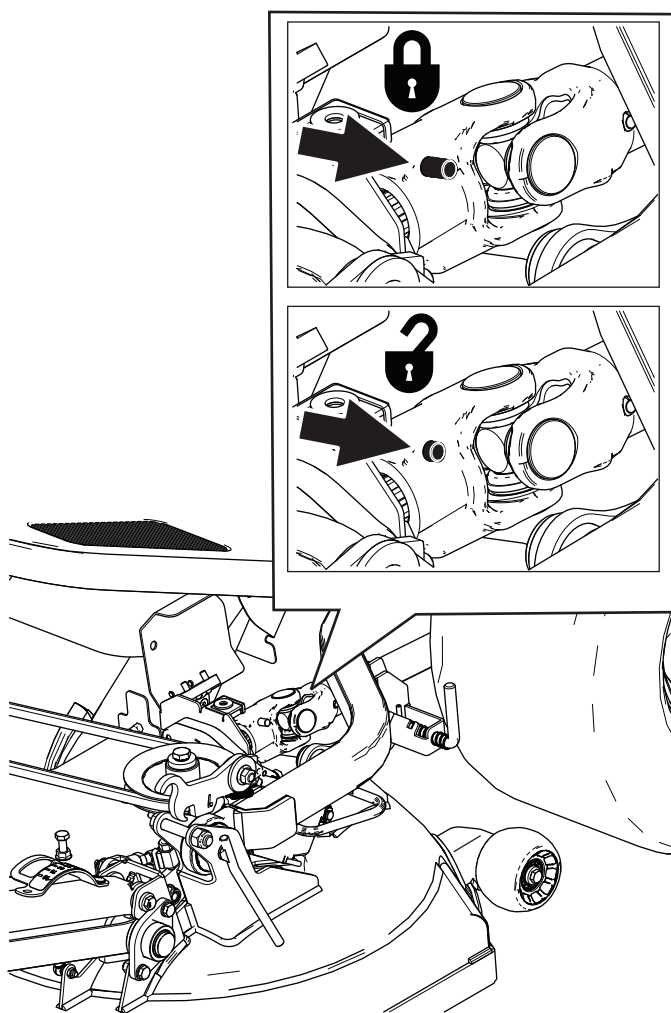

Figure 91
1. Rotate the quarter-turn fastener and open the universal-joint cover from the belt cover (Figure 91).
2. Disconnect the forward end of the driveshaft from the cutting-unit gearbox by pressing the spring-loaded pin, and then pulling the end of the driveshaft rearward (Figure 91).
3. Release the spring-loaded pin and check that the universal joint of the driveshaft is locked into the cutting-unit gearbox; refer to Figure 91.